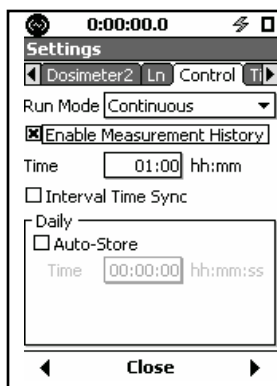

FIGURE 10-1 Measurement History Setup
Step 5 Navigate down to the **Enable Measurement History** option and press **ENTER** to select the check box, as shown in FIGURE 10-1.